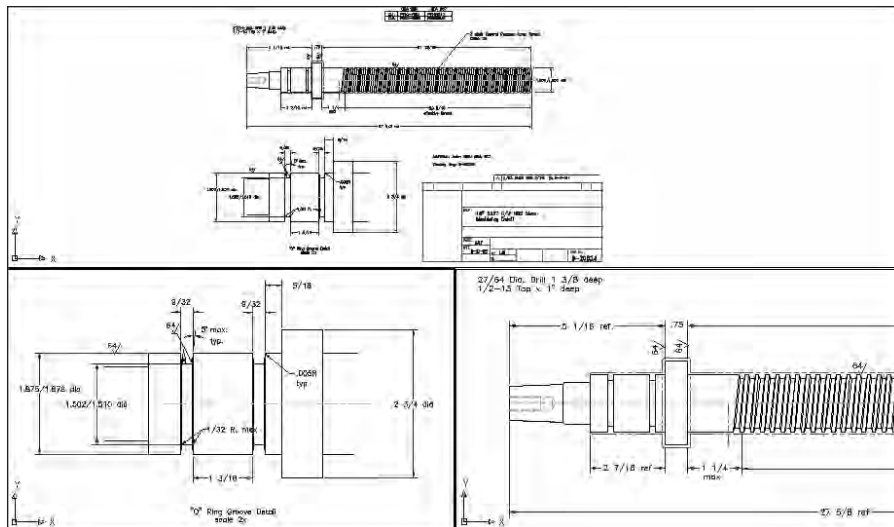

Figure 8-19: The three tiled viewports now display three different views.
7. Click the top viewport. Choose **Zoom Extents** from the Zoom flyout of the Standard toolbar. Figure 8-19 shows the results.